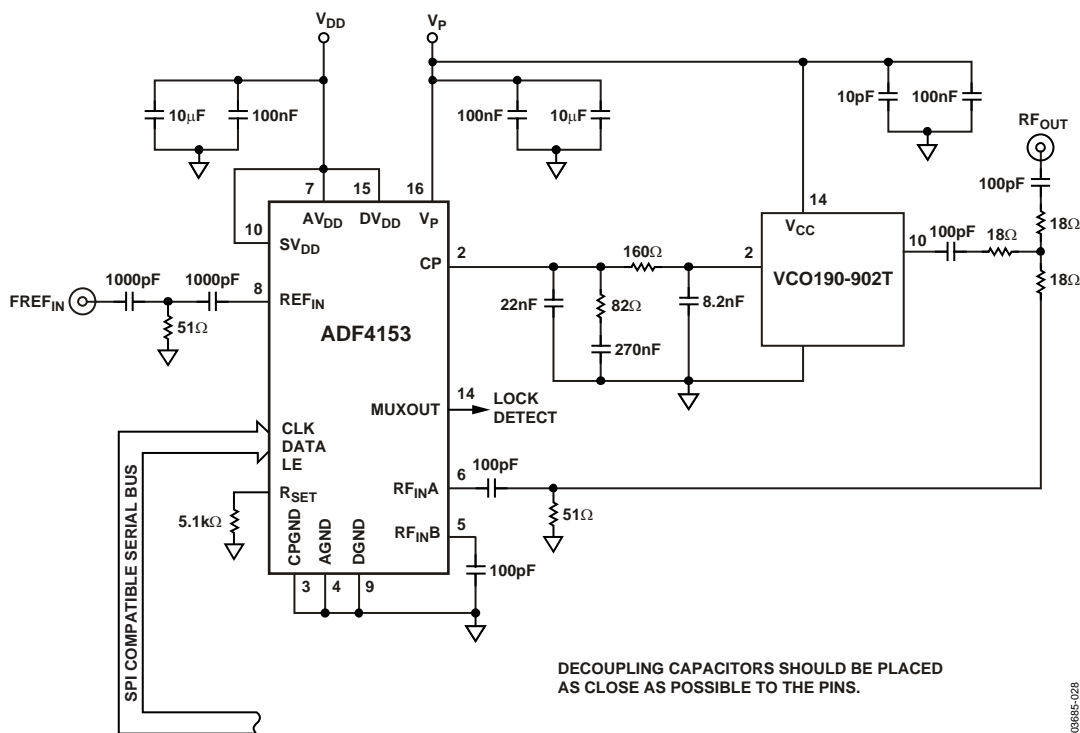

Figure 20. Local Oscillator for GSM Base Station Transmitter
Figure 20 shows the ADF4153 being used with a VCO to produce the local oscillator (LO) for a GSM base station transmitter.